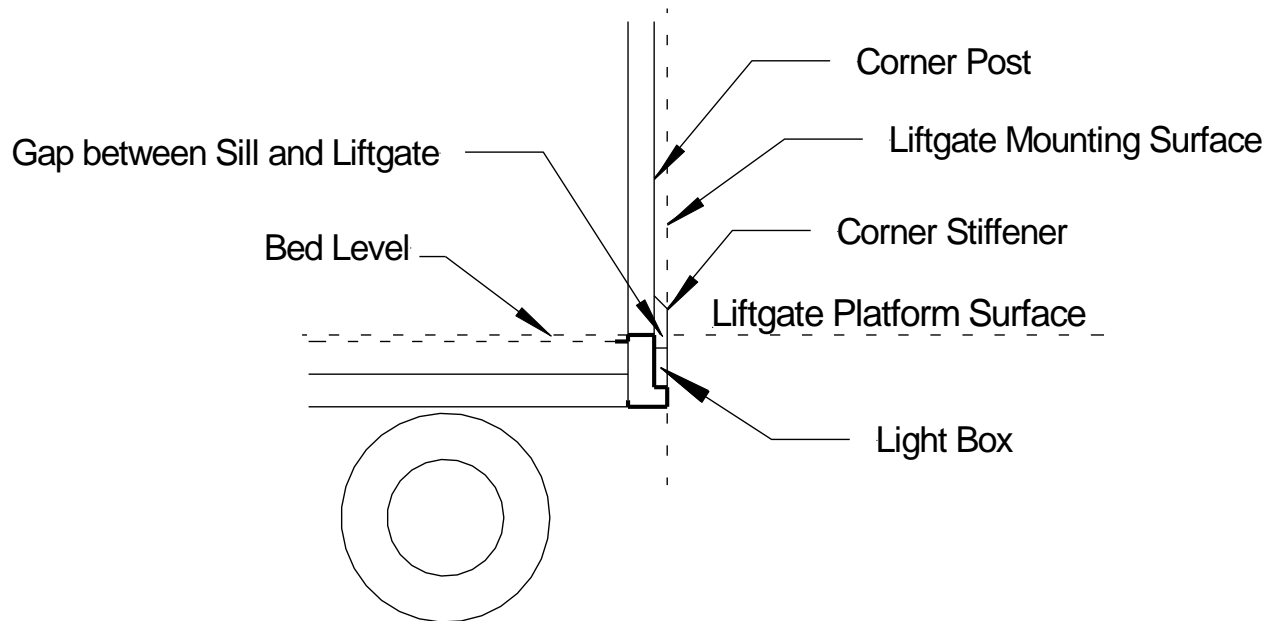

Fig. 4
1. Flush the sill: Some trucks or trailers may have configurations with irregularly shaped sills, **Fig.4**. The liftgate mounting surface may NOT be flush with the corner post. Some sills may be inset or have door gutters. All these situations are remedied with a process called sub-framing and/or flushing the sill. Sub-framing is done in one of two ways; The sub-frame can be built up using correct size 3/16" or greater wall tubing before the liftgate is mounted. Or, the liftgate can be mounted into position and the sub-frame can be built as the liftgate is installed with 3/16" or greater flat bar. **Fig. 5**. In either case, the liftgate installation weld procedure does not change.